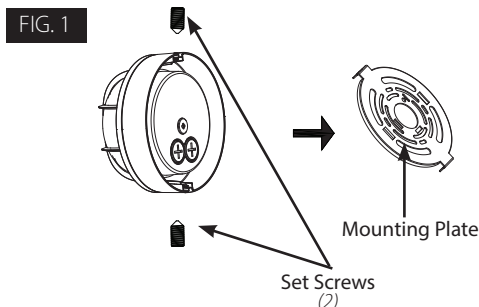

FIG. 2
2. Install Mounting Plate with (2) Screws to Junction Box (by others) as shown in Fig. 2.